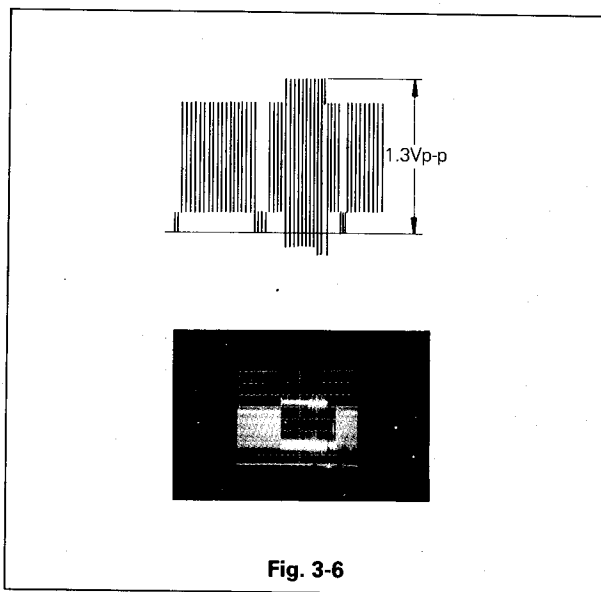

Fig. 3-6
- Referring to Fig. 3-6, adjust VR2A0 so that the upper limit of the noise bar from the top end of synchronizing signal is $1.3 \pm 0.05\text{Vp-p}$.